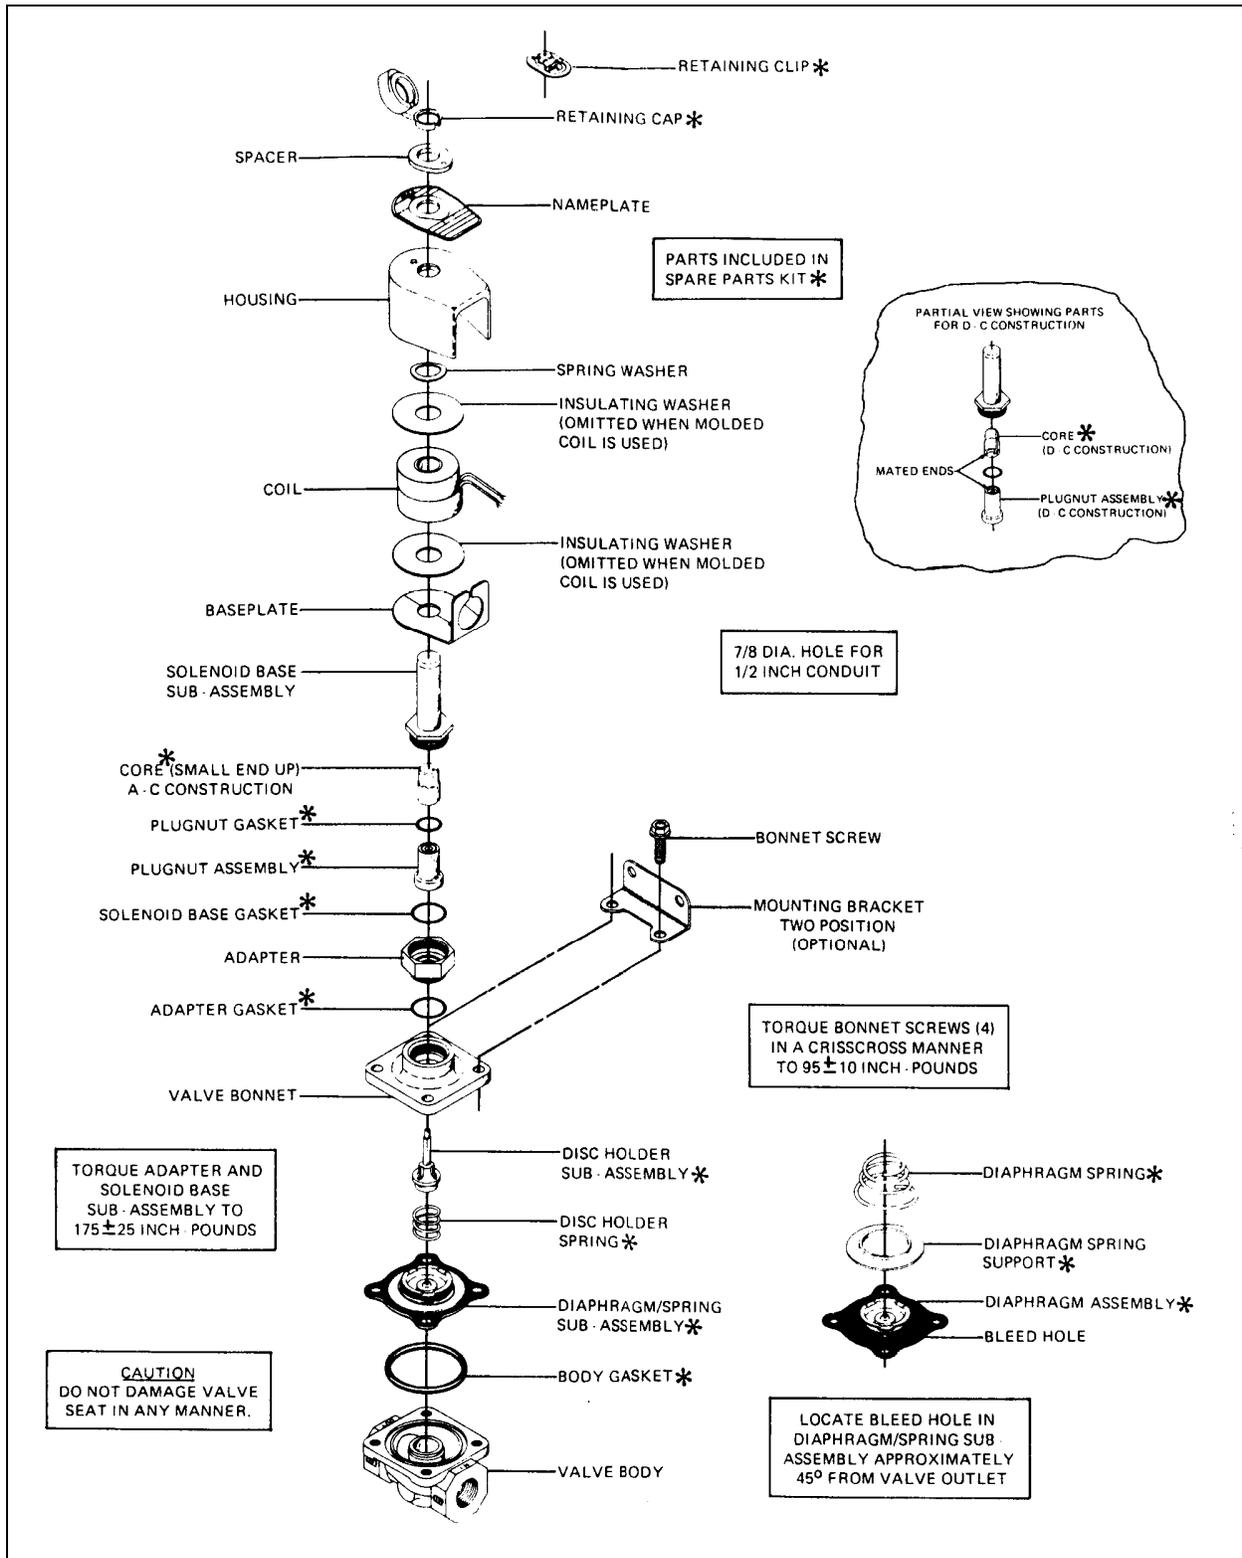

FIGURE 45: DRIVER'S WATER SOLENOID VALVE
3. Disassemble valve in an orderly fashion paying careful attention to exploded view (Fig. 45) provided for identification of parts.
1. Reassemble in reverse order of disassembly, paying careful attention to exploded view provided for identification and placement of parts (Fig. 45).